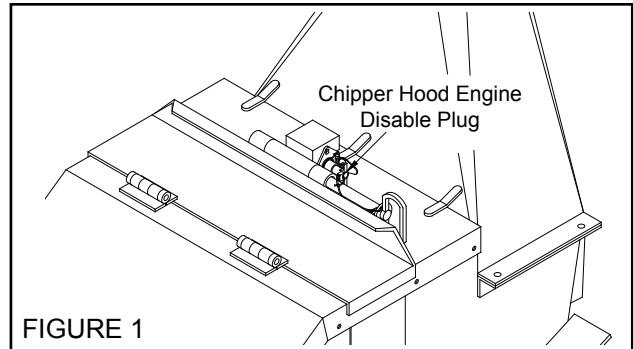
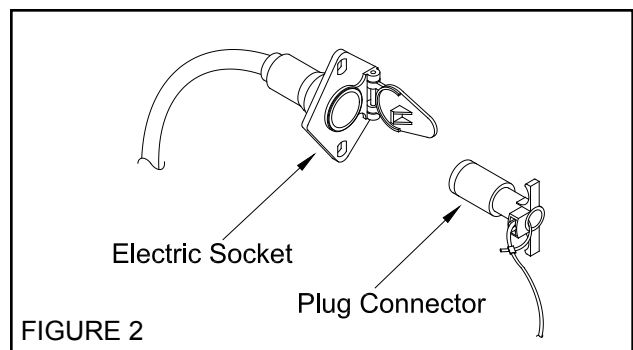
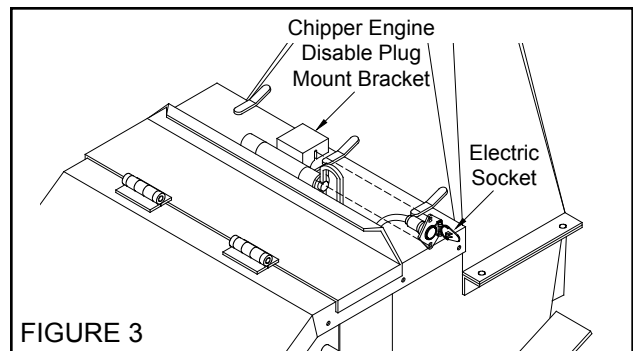

FIGURE 1
FIGURE 2
FIGURE 3
The chipper hood engine disable plug is located on top of the chipper hood (see figure 1). The chipper engine disable plug is made up of two parts: an electric socket and a plug connector (see figure 2). The electric socket is bolted to the chipper engine disable plug mount bracket (see figure 3) and the plug connector is attached by a cable to the hood pin (see figure 4).
Install the cable to pull and feed from the bottom of the winch drum (See figure 2). Remove excess bolt length on cable bolts after cable is secured to the spool.
5. Make sure everyone is clear and then retract the clutch lock pin and then pull the clutch handle up to engage the winch clutch (See Figure 1). Make sure handle is locked in position.